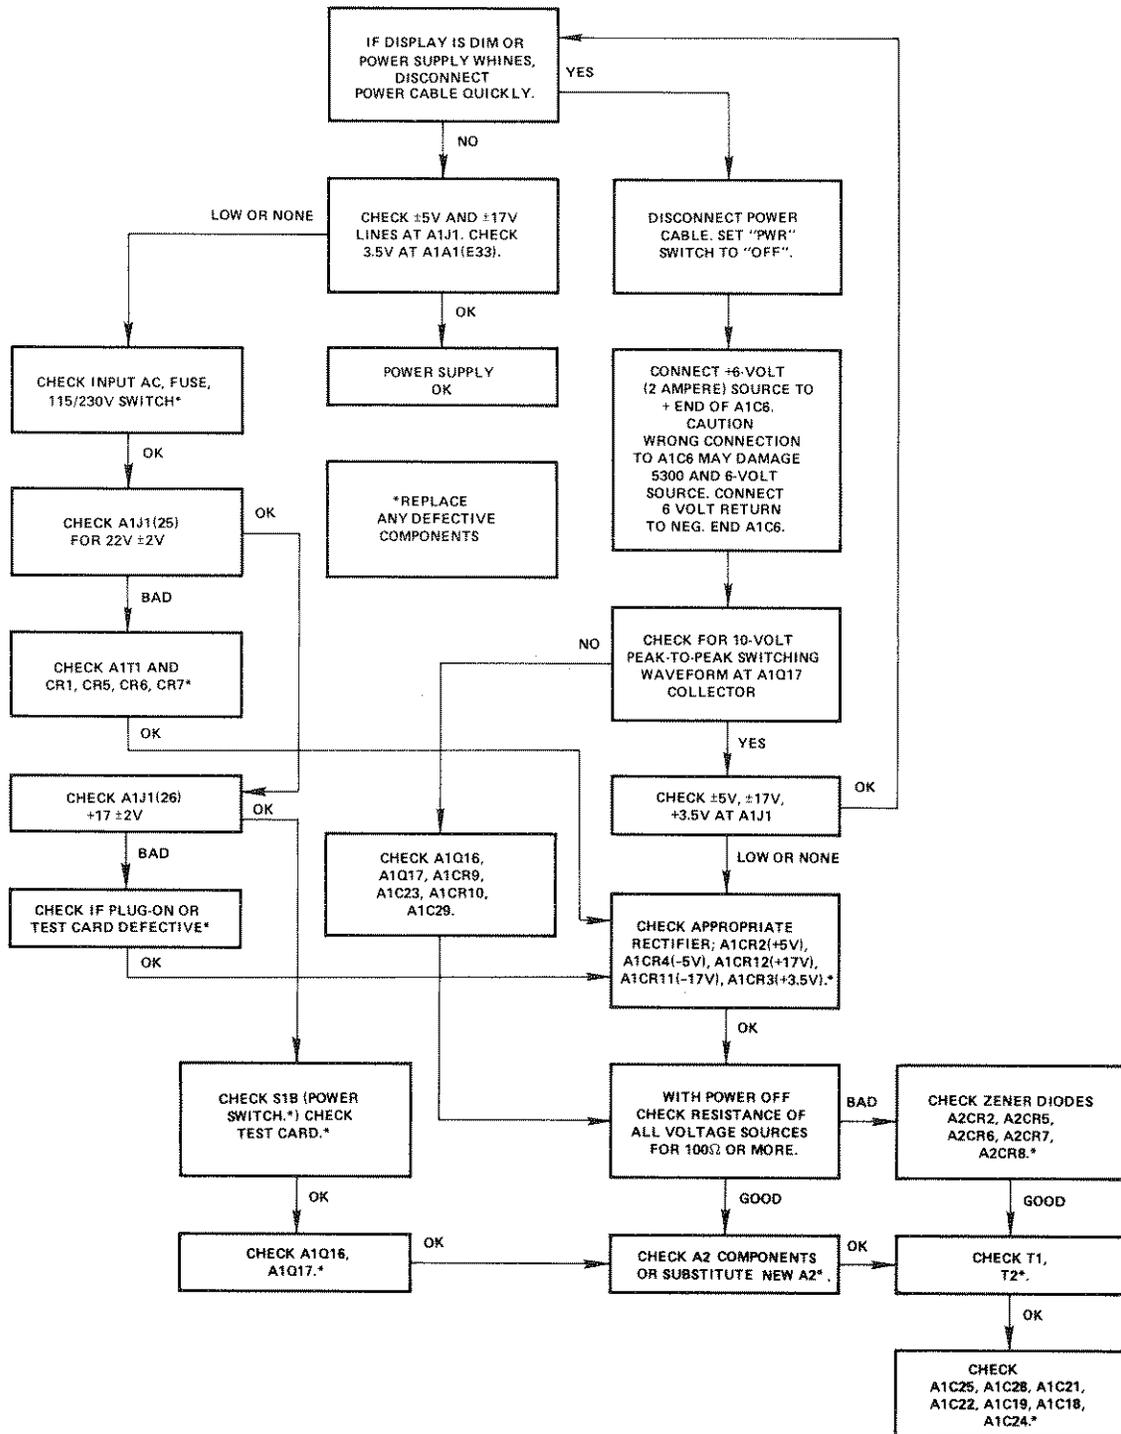

Figure 5-1. 5300B Power Supply Checks
a. 5300B mated to the plug-on in use. Tests located in Paragraph 5-20 and Figure 5-1 and 5-2 can be performed with plug-on mated to the mainframe. Additional tests can be performed with a plug-on, using performance and maintenance checks in the plug-on section.
5-19. Power Supply Checks. Power Supply voltages may be checked by connecting pins 50 and 25 together. The preferred method, however, is to use the Diagnostic Interface Card, and Diagnostic Test Card "B," Test 7. Perform Power Supply Checks and oscilloscope checks using Figure 5-1 troubleshooting chart as an aid. Voltages should be: